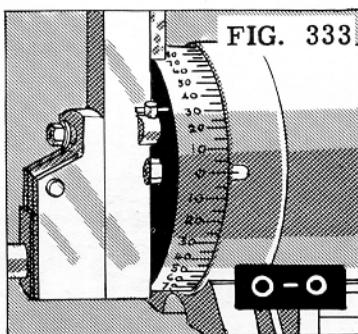
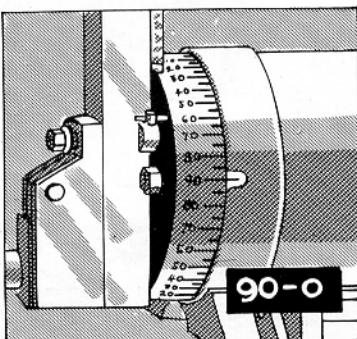
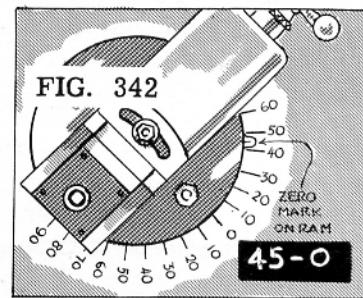

FIG. 333
FIG. 334
FIG. 340 FIG. 341
Those heads which start with a zero graduation when the head is in a vertical position are graduated to indicate an angular position from 0° to 60° on each side of the vertical position (Fig. 333). Other heads have a 90° graduation which coincides with the zero mark on the ram when the head is in the vertical position (Fig. 334).
In other words, the graduations are arranged to increase numerically from the zero in each direction in Fig. 333, and are arranged to decrease numerically from the 90° in each direction in Fig. 334. Both, however, will indicate an angular position through sixty degrees on each side of the vertical position. This factor must be taken into consideration whenever the head is swiveled for an angular cut.
The job shown in Figure 340 has a 90° opening. If an imaginary line (A), Fig. 341, is drawn perpendicular to the work, the 90° angle will be divided into two 45° angles. This, then, is the angle at which the head must be set when the surface (B) is machined. In this particular case, it is unimportant whether or not the head starts with a zero graduation (Fig. 333) or a 90° graduation (Fig. 334). As 45° is halfway between 0° and 90° , the head may be set first at 45° to the right of the vertical position. To finish the opposite surface, the work may be reversed in the vise or the head may be set 45° to the left of the vertical position.